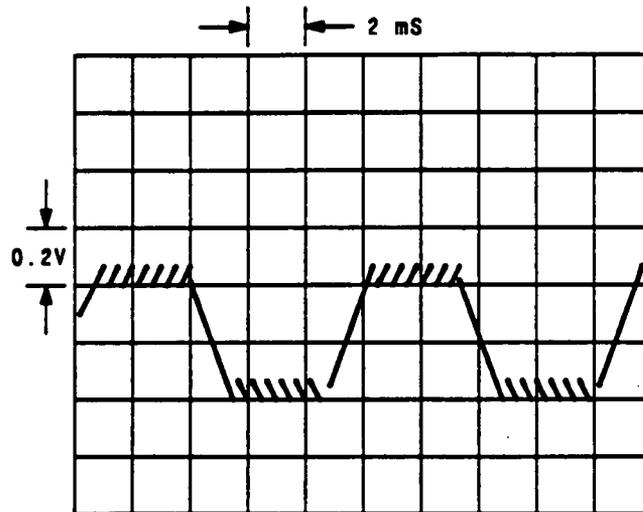

Figure 2. Oscilloscope Display of TP3 (dc coupled), Signal Generator's frequency 950 MHz, modulation EXT FM 5 kHz deviation (100 Hz square wave).
5. Connect Channel A to TP3 (Φ M INPUT). Verify that the oscilloscope display shown in Figure 2 is correct. If the waveform is not correct continue with $\sqrt{2}$.